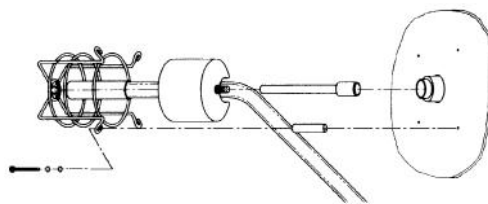

Figure 1-1 Float Cage Installation
2. Turn the center section over and install the float and float cage. Install the shaft on the “diving-bell” float in the hole in the distributor shaft. Attach the float cage to the center section with the four screws and 1-inch spacers provided with the float cage kit (Figure 1-1).